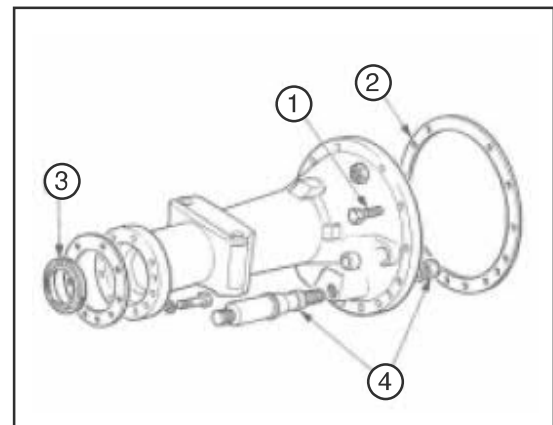

Fig. 10
16. Remove all nuts and bolts securing the axle housing to the centre housing. (Item 1 in Fig. 10).
19. Remove the gasket from the centre housing and discard. (Item 2 in Fig.10).
21. Remove the oil seal. (Item 3 in Fig. 10).
2. If the shaft lower link has been removed from the axle housing, when refitting tighten the nut to a torque of (50 – 55 lbf ft.) 68 – 75 Nm. (Item 4 in Fig. 10).